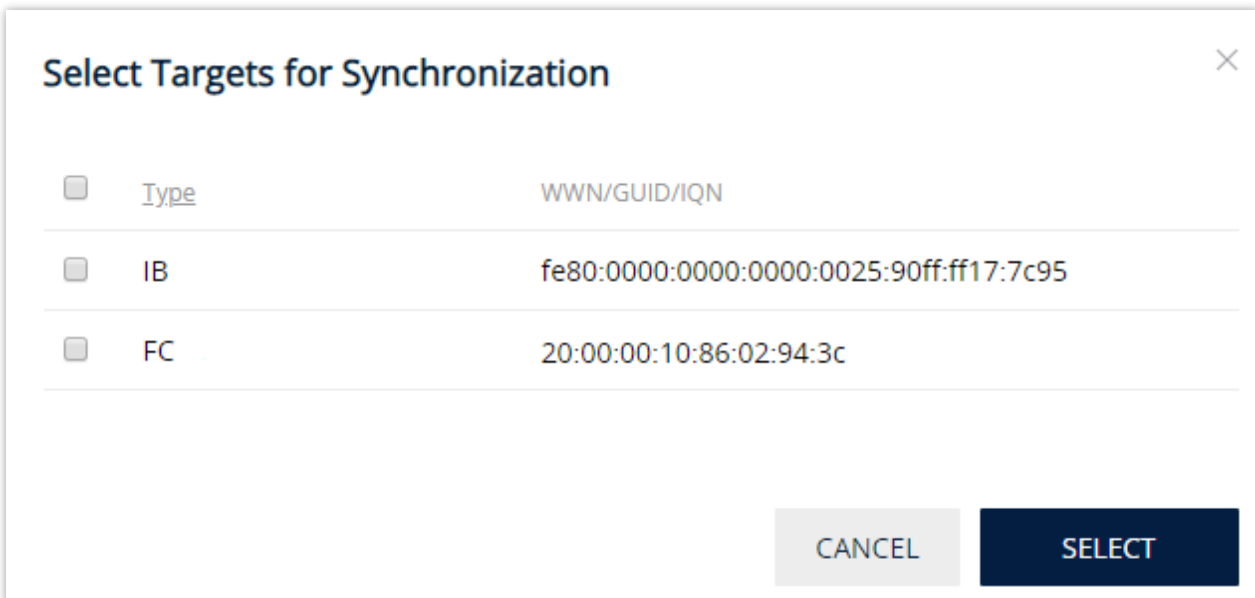

Figure 36. Select Targets for Synchronization window
- To open a setup window (Figure 36), click **Target Synchronization**.